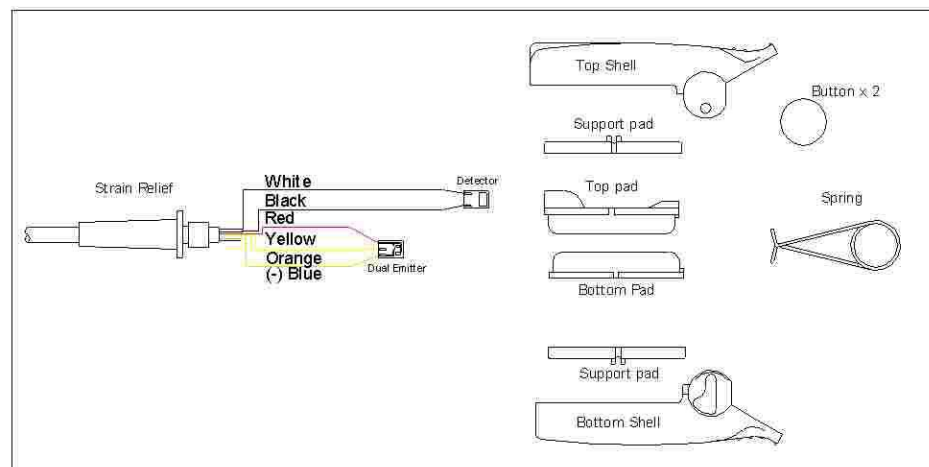

Fig 2.3
2. Solder wires to the detector, LED/I.R as shown in fig 2.3